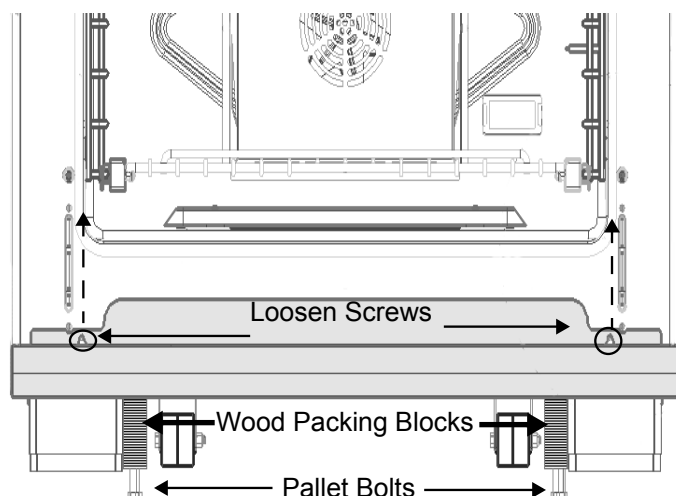

FIGURE 6: DOOR TRIM, PACKING BLOCKS, & PALLET BOLTS
- All ranges are held to the pallet by (4) bolts through a wood block center (*Figure 6*). The two front pallet bolts are accessible only after removing the Door Trim located beneath the doors.